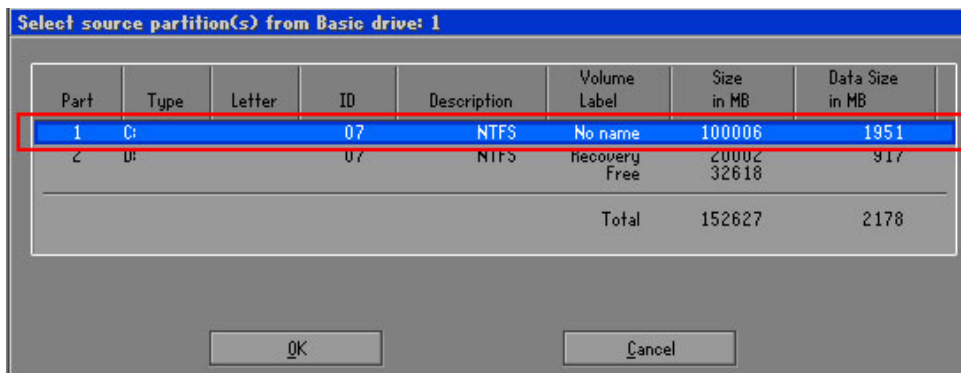

Figure B-15: Select a Source Partition from Basic Drive
**Step 6:** Select a source partition (Part 1) from basic drive as shown in **Figure B-15**. Then click OK.